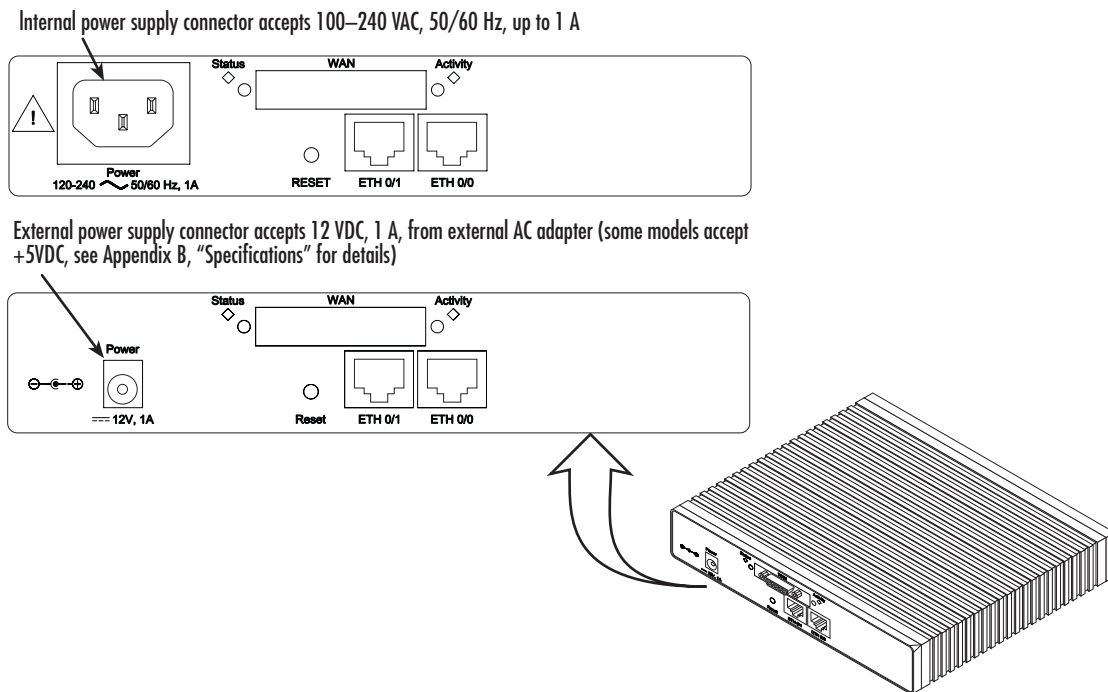

Figure 3. OnSite 3210 Series power input connectors
- *UI* stands for internal 100–240V AC universal input power supply (see figure 3)
- *EUI* stands for external 100–240V AC universal input power supply (see figure 3)